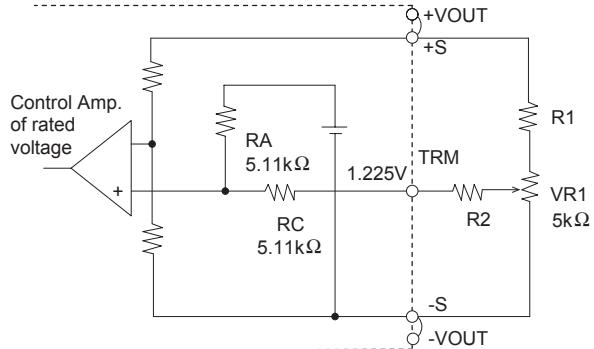

Fig.4.4 Output voltage control circuit
(1) To adjust output voltage
■By connecting the external potentiometer (VR1) and resistors (R1, R2), output voltage becomes adjustable, as shown in Fig.4.4.